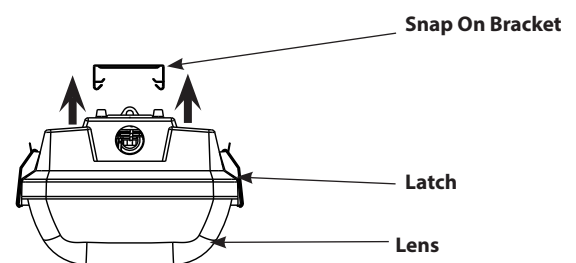

Fig. 3
9. Snap **Housing** on **Snap On Brackets** as shown in **Fig. 3**.
1. Snap **Housing** on **Snap On Brackets** as shown in **Fig. 3**.